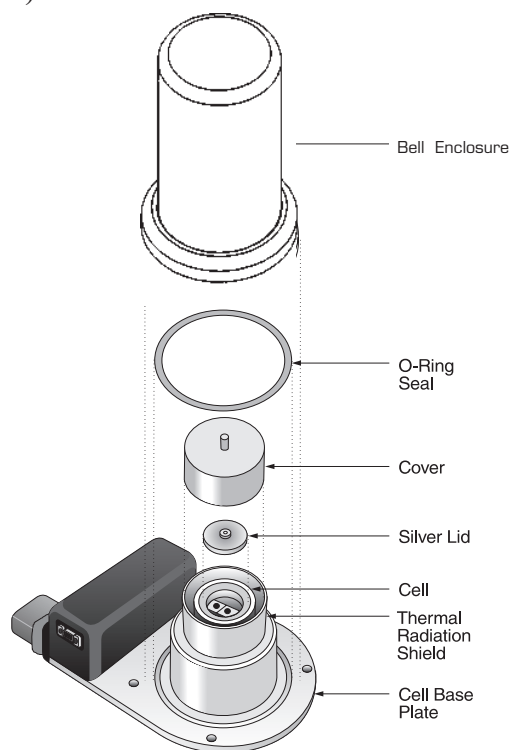

Figure 2.9
1. Remove the bell enclosure, O-ring seal, and cell cover from the DSC Cell (see Figure 2.9).